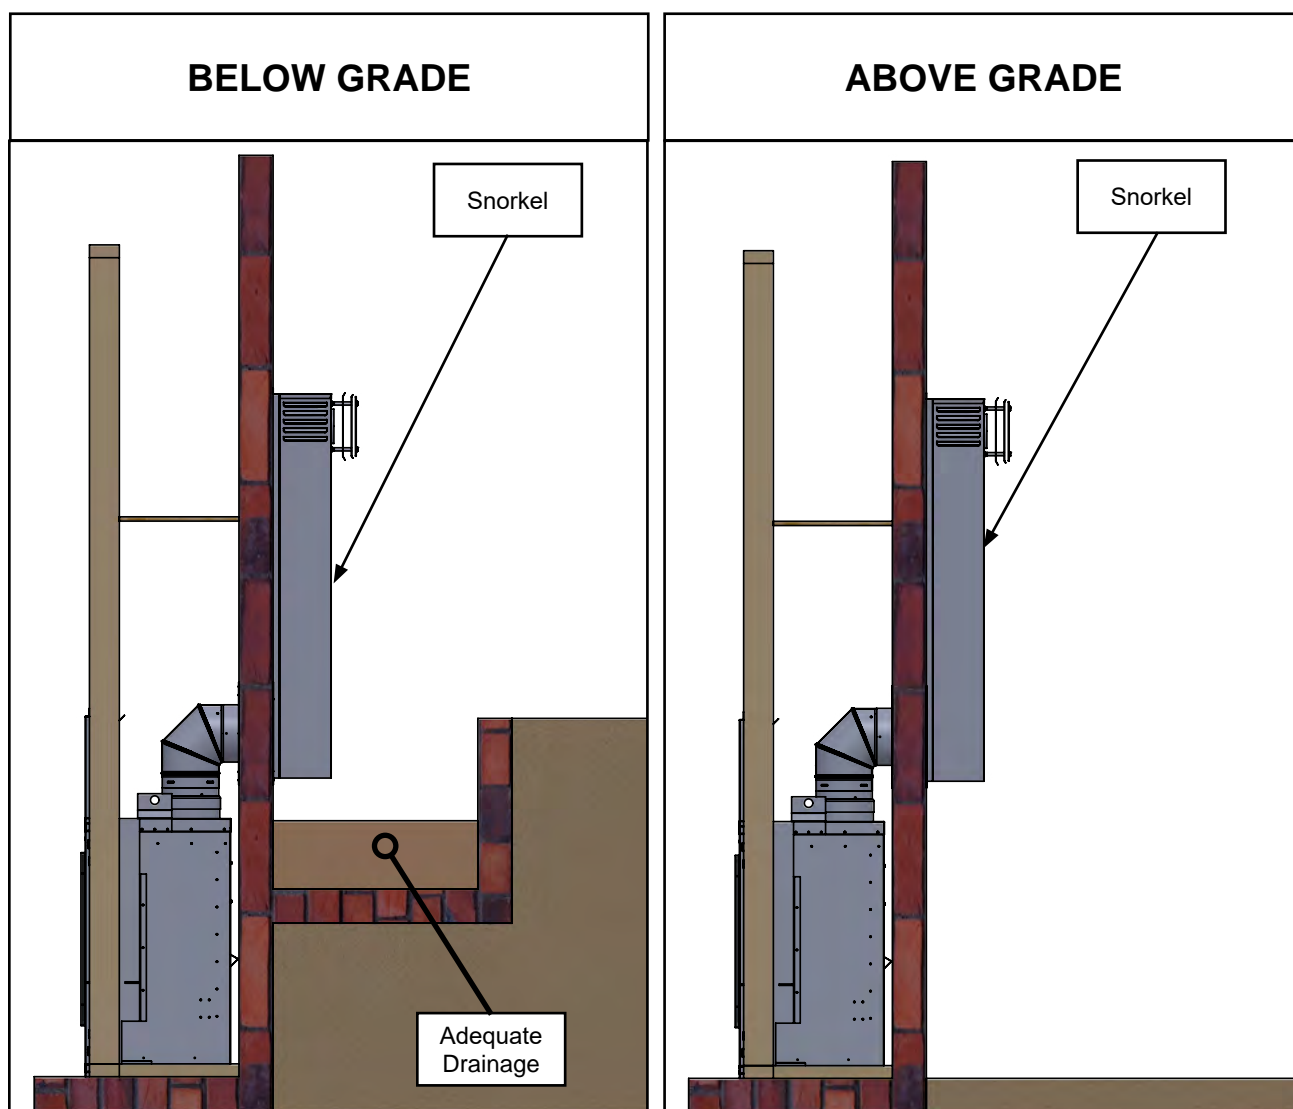

Figure 10.5.01
- A snorkel counts as two 90° elbows out of the total number of allowable elbows in the vent run. For example, the installation in **Figure 10.5.01** shows the use of 3 90° elbows
- If the snorkel termination is installed below grade, (IE: basement) proper drainage must be provided to prevent water from entering the snorkel termination (see **Figure 10.5.01**)